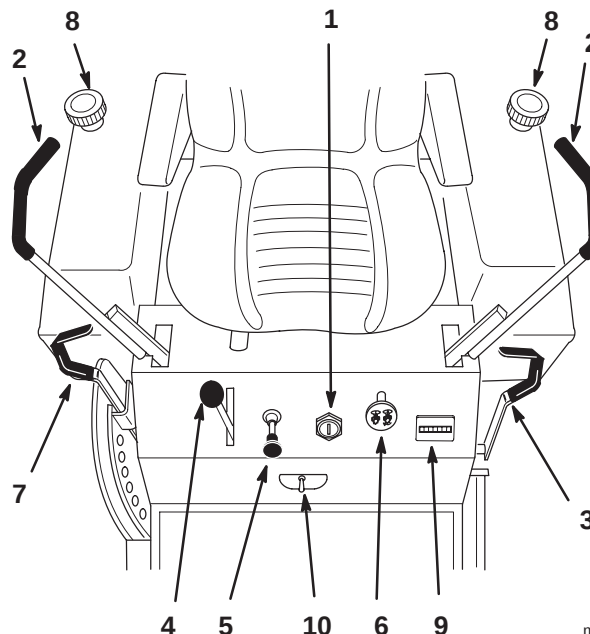

Figure 6
Become familiar with all of the controls (Fig. 6) before you start the engine and operate the machine.
1. Move the motion control levers (Fig. 6) out to the neutral lock position.